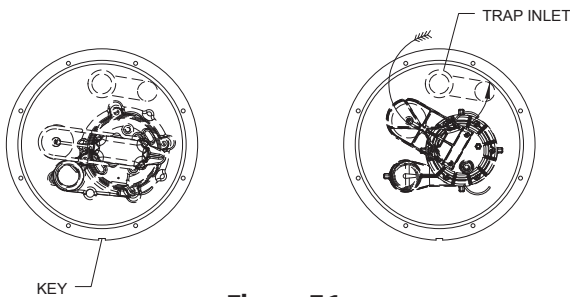

Figure 5.1
5.1) Place the pump in the basin as shown in Figure 5.1.
**NOTE:** If installing the internal trap, rotate the tail pipe to the orientation shown in Figure 5.1.